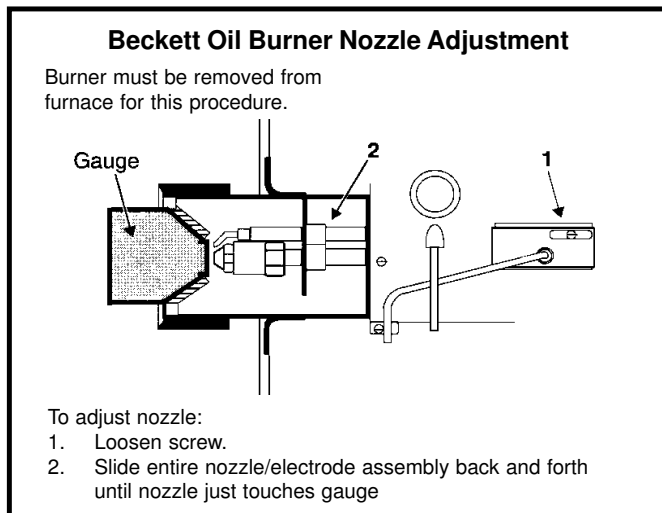

Figure 10
Proper nozzle and electrode depth and alignment are essential for proper burner operation. Figure 10 shows the proper adjustment procedure using the Beckett "T" gauge.
2. Nozzle adjustments are made by sliding the entire nozzle assembly forward or backward within the blast tube (see Figure 10).